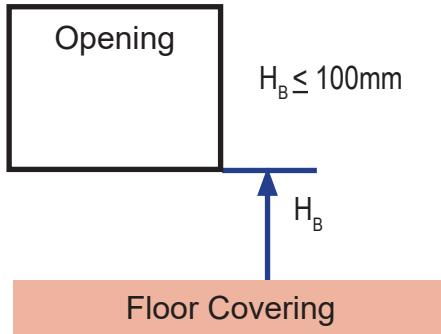

Figure 9: Opening Requirements for Mechanical Ventilation
- The lower edge of openings extracting air from the room shall not be more than 100 mm above the floor (see Figure 9).